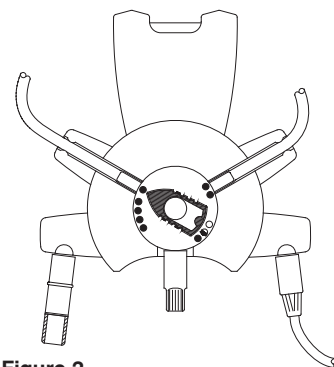

Figure 2
- Hang the solution bag on an I.V. pole and place the drain bag at floor level. Break the frangible in the solution bag outlet port. (If using the organizer, place the stay•safe disc in the organizer as illustrated in Figure 2.)
- Remove the stay•safe cap from its packaging. (If using the organizer, place in the right or left notch of the organizer as illustrated in Figure 2. Place the stay•safe Extension Set in the other notch of the organizer.)